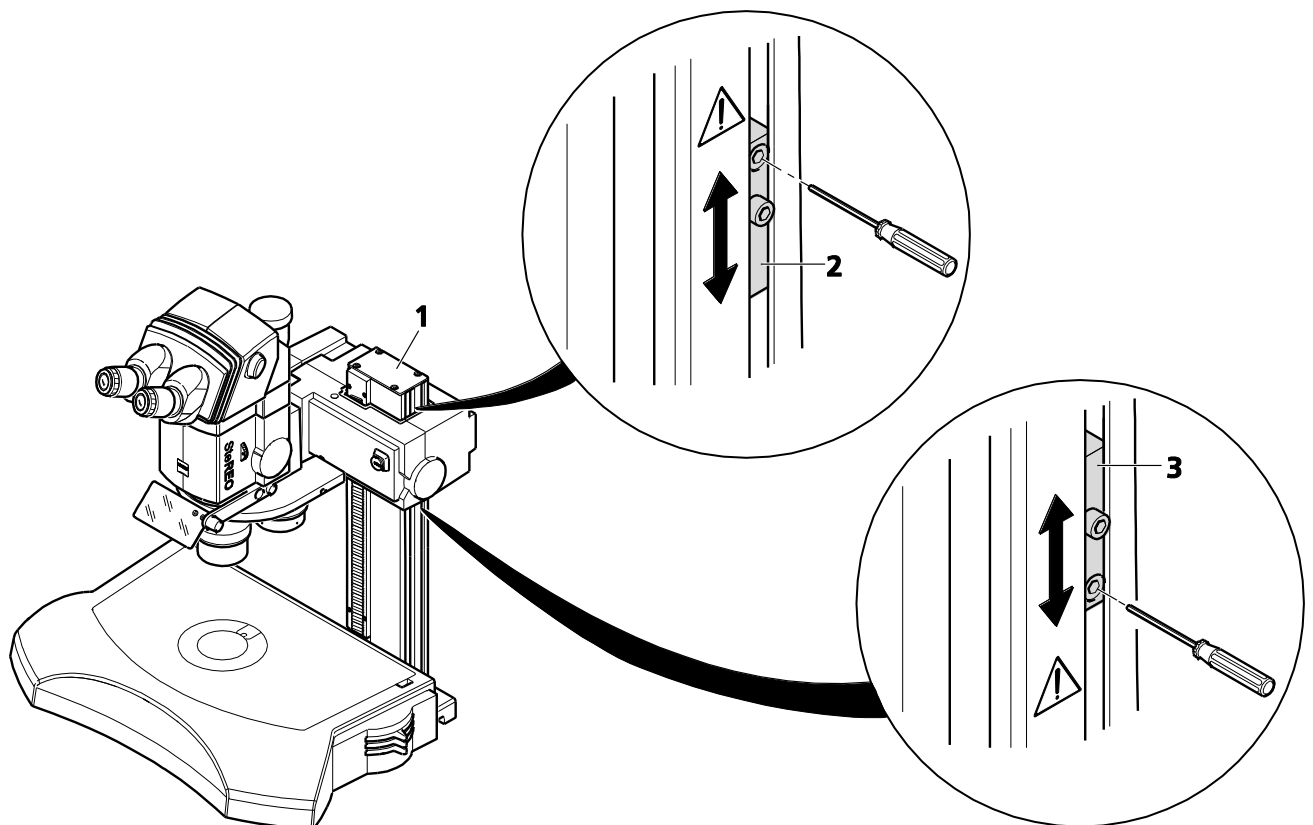

Fig. 27 Adjusting the travel of the focusing drive
After the first installation, the lower limit switch (Fig. 27/3) in the column (Fig. 27/1) must be adjusted from the delivery position to an appropriate working position by means of the ball-headed screwdriver. The upper stop (Fig. 27/2) may also be readjusted. Adjust the limit switches instantly to prevent the microscope from being damaged by the movement of the motorized focusing drive.
- Loosen the screw (SW3) at the lower limit switch (Fig. 27/3) and push the switch downward. Tighten the screw again.